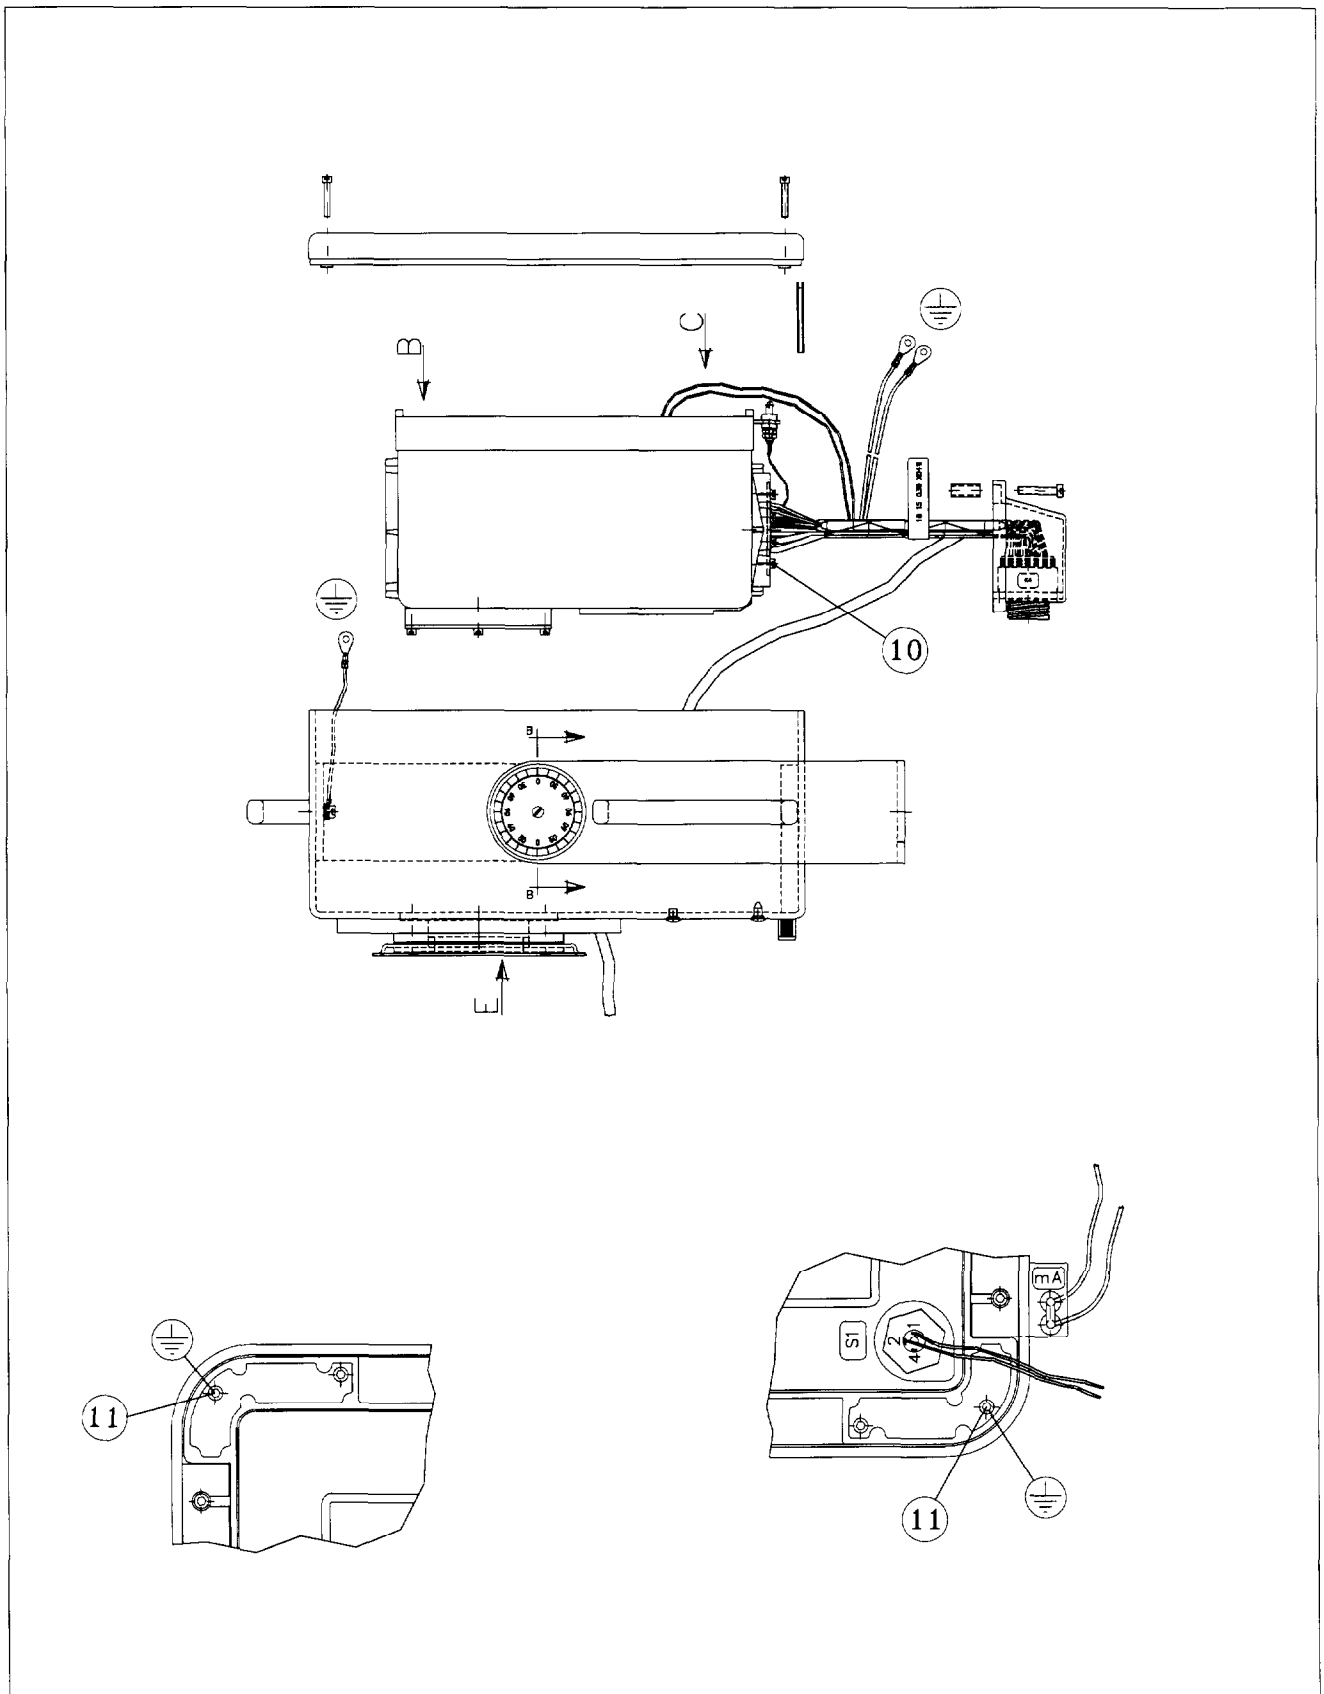

Fig. 3
- Loosen the screws (11/ Fig. 3) for the grounding cable.
- Remove the wires of the collimator through the hole in the cover and remove the old cable harness with board D1. (see Fig. 3)
- Install the new cable harness on the tube assembly. You will need to attach board D1 with the 8 Allen screws (10/Fig.3). Secure the screws with threadlocker.
- Reconnect the ground wires (11/Fig.3).